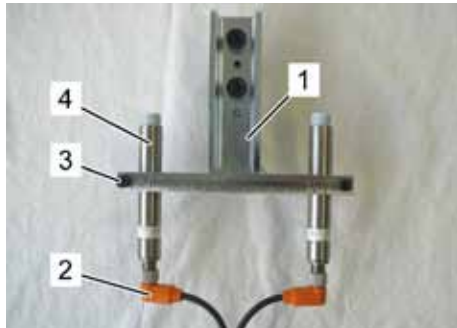

Fig. 42: Cables and sensor connected
2. Connect the sensor cable (Fig. 42/2) to the sensor at the respective compartment (the side where the crosshead is in the bottom dead centre) (Fig. 42/4) to have a correct alignment of the connector.
3. Insert the sensors in the sensor bracket (Fig. 42/1) at the respective compartment (the side where the crosshead is in the bottom dead centre)